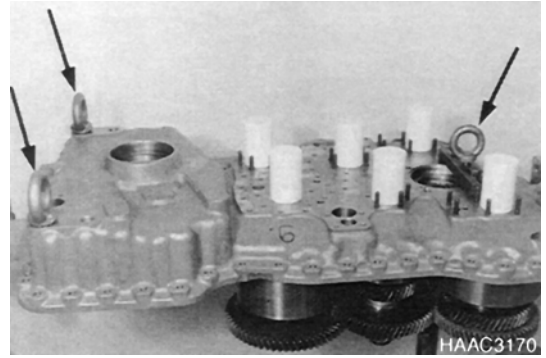

Figure 240
12. Mount eye bolts, see Figure 240.